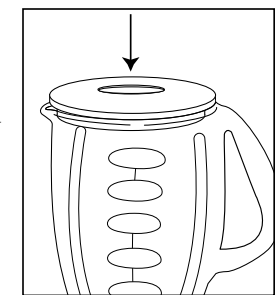

FIGURE 7
- Do not remove the lid while in use. Remove filler cap to add smaller ingredients. (Figure 7)